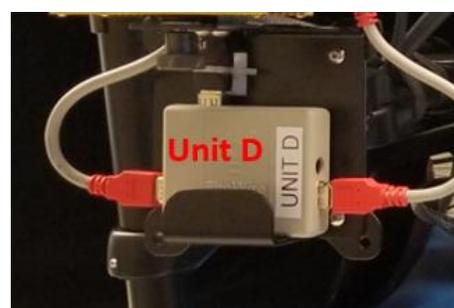

Figure 4
- Connect the two red camera video (firewire) cables to the Unibrain Hub (Unit D). The other ends should already be pre-connected to the cameras. See Figure 4.